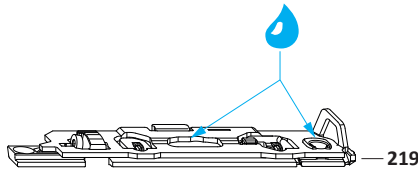

Fig. 1
Assembly of the bottom hinge (219) at BSU (fig. 1)